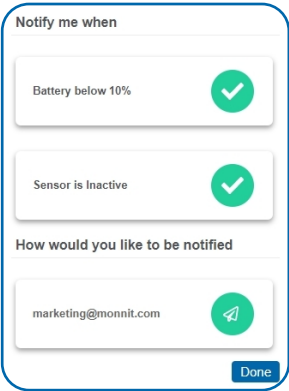

Figure 13
**Choose your actions. See Figure 13.**